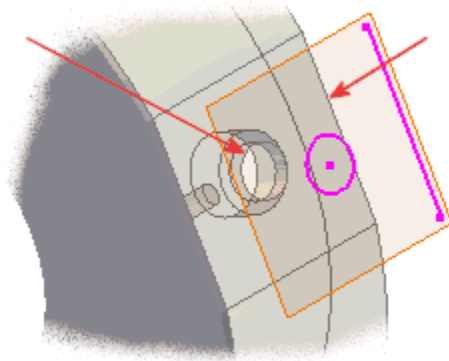

Figure 16: Projected edges.
3. Click the Project Geometry tool and project the circle and edge shown in Figure 16. Expand the sketch in the browser and note there are two References listed under the sketch, one for each projected edge.